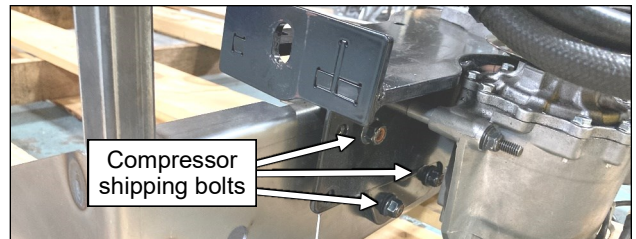

Fig. 4.3 (Unbolt Compressor)
- 4.3 See fig. 4.3. Remove the 3 bolts securing the compressor bracket to the base of the rear shipping mount and cut any zip ties holding the hoses and wire harness to the shipping mount. Support the compressor using a bungee cord or rope. Do not ever use the hoses to support the compressor or damage may occur.